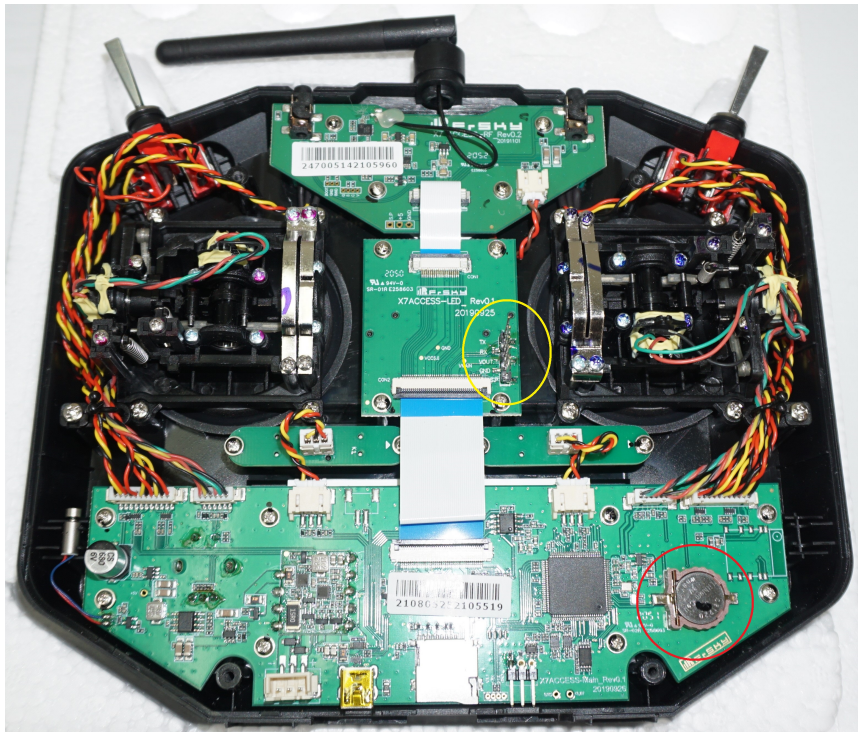

Figure 92: RCU RTC Location
8. Locate the RTC battery(circled red in Figure 92) and remove it.
10. Carefully put the two case halves together. Verify the module bay pins (circled yellow in Figure 92) slide through the slot (Figure 21).